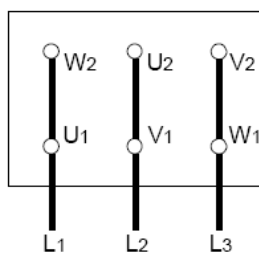

Fig. 9a. Δ - connection
- The mains connection on the tagboard depends on the nominal power of the motor, the power supply and the type of connection. The necessary connection of the bridges in the terminal box is shown in the following (**Table 1** and **Fig. 9a, 9b, 9c**).